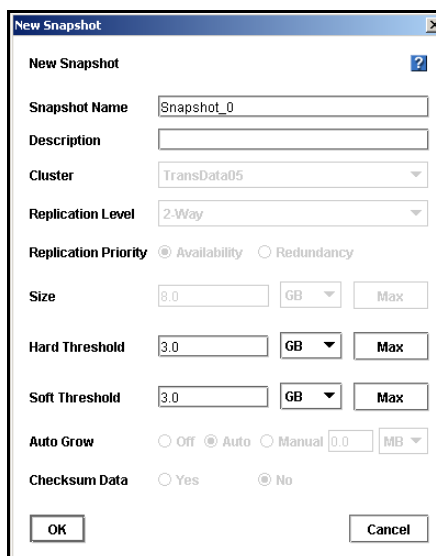

Figure 235. Creating a New Primary Snapshot
1. In the Primary section of the New Remote Snapshot window, click New Snapshot. The New Snapshot window opens, shown in Figure 235.